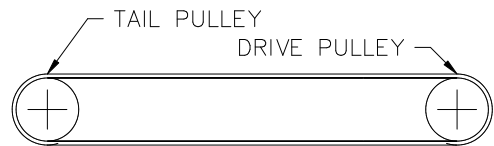

Figure 4.1 – End Drive Belt Routing
- Install belt per Figure 4.1.